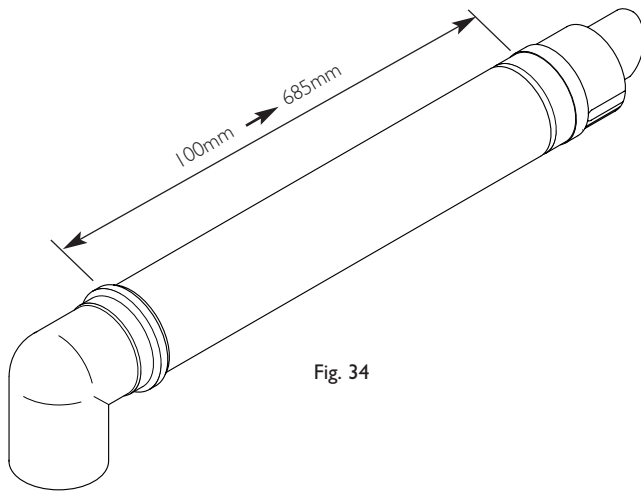

Fig. 34
1. The standard flue is suitable for lengths between 100mm minimum and 685mm maximum, as measured from the edge of the flue elbow outlet to the joint between the terminal and air duct (Fig. 34).